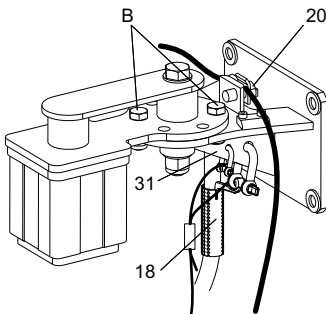

Fig. 9 Top fixation bracket with lifting and safety wires and cable sock
- 20. Mount the cable sock (pos. 18) to the top fixation bracket using the shackle, and pull the motor cable through it to the desired position. See fig. 9. The power supply cable should be slightly tightened.